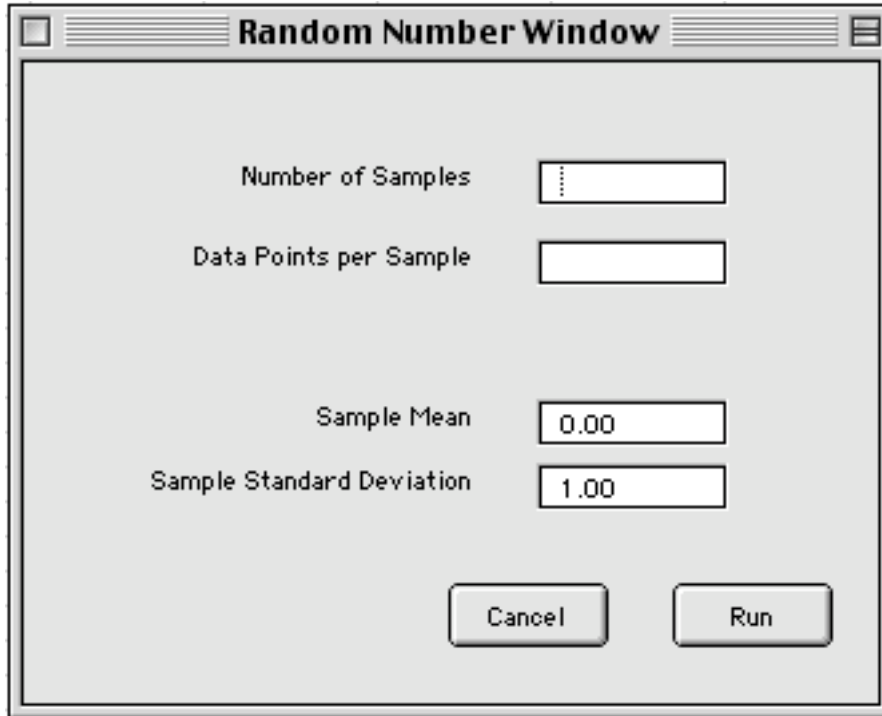

Figure 4
- To generate your data, press the “Generate Numbers” button. You should see the window shown in Figure 4. With this interface, you can tell the computer how many randomly generated numbers you want. The box labeled “Number of Samples” defines how many data sets you want. The box labeled “Data Points per Sample” defines how many data points you want in each set. The default values for the mean is **0.00**, the default value of standard deviation is **1.00**. You can play with this later. For now, leave it unchanged